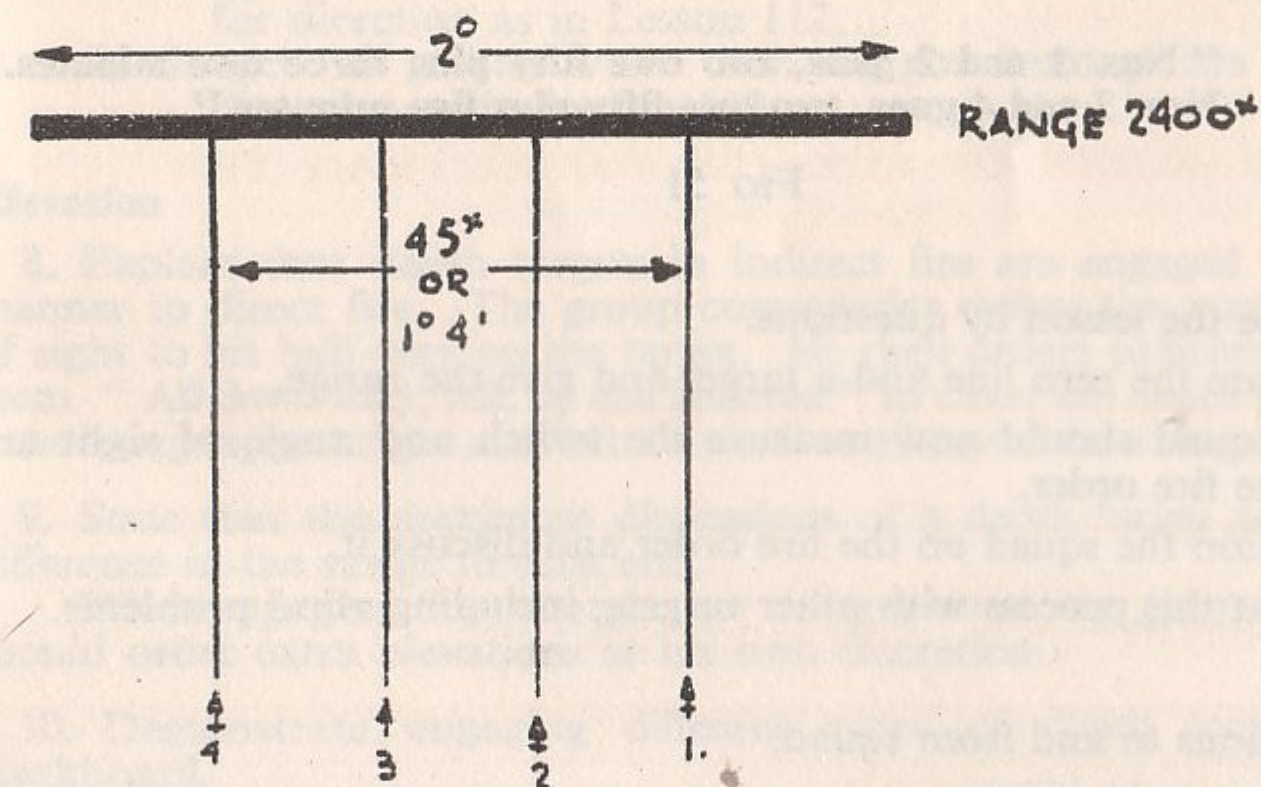

FIG 50
5. Draw the diagrams given in Figs 50 and 51 on the blackboard.